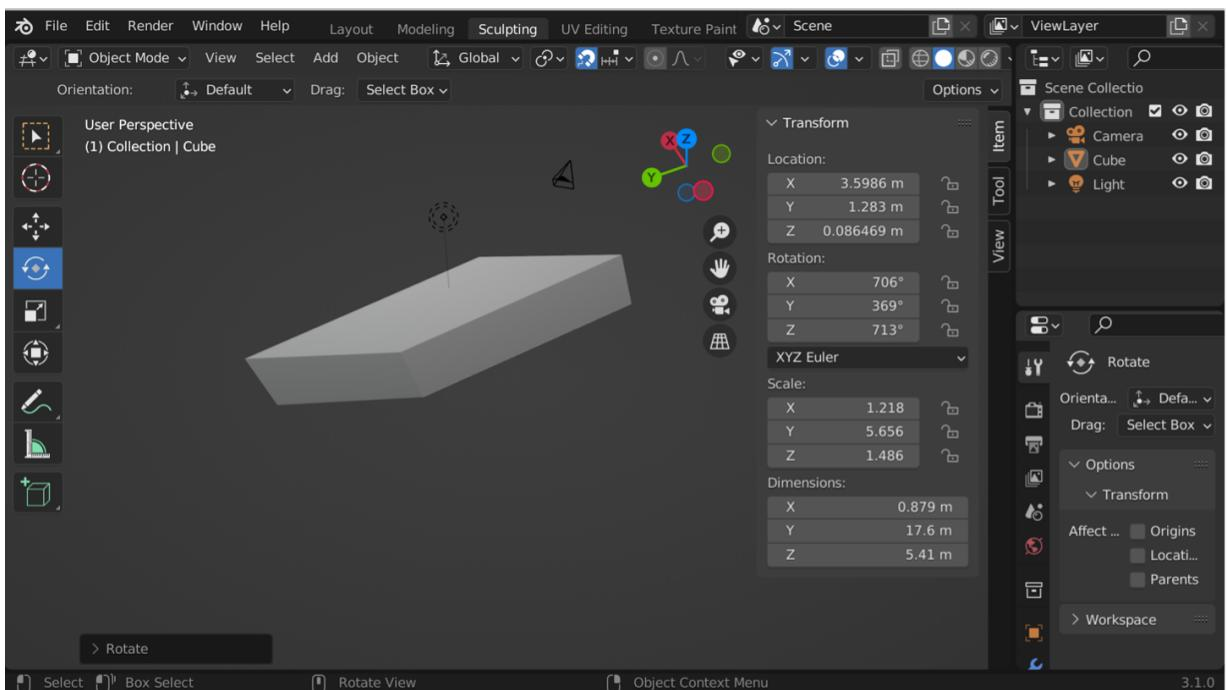

Figure 1.1: Blender interface.
**Structure of the interface.** Read the manual to be familiar with the structure of the Blender interface (see Fig. 1.1), in particular, read about and practice: